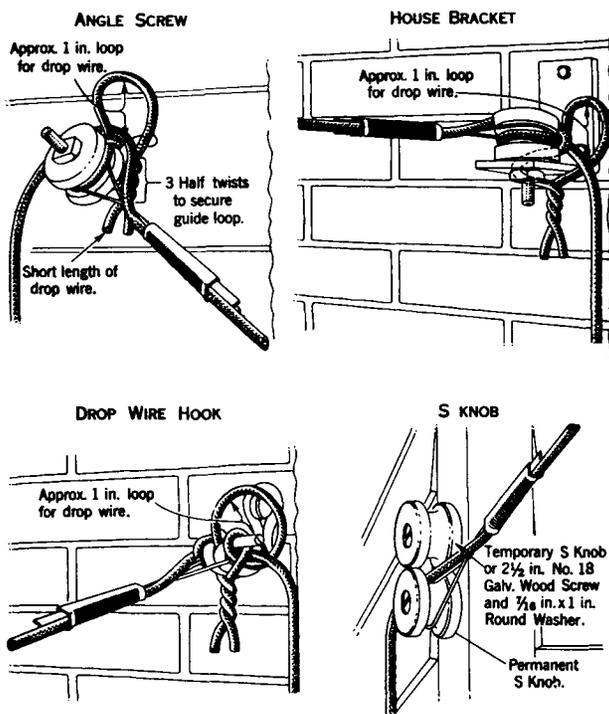

Fig. 1 - Temporary Guide Loop
(5) Man No. 1 and Man No. 2 both go to the opposite or building end of the drop wire span.
(6) Man No. 1 cuts the drop wire in the building run at a point where the end of the wire can be reached from the ground and then frees the wire from all intermediate attachments between the cut end of the wire and the first building attachment.
(7) Man No. 2 removes the C knob or the SC wire clip at the first building attachment and then places a temporary guide loop at the first building attachment, around the drop wire, such as shown in Fig. 1, to prevent the wire from becoming accidentally disengaged from the building attachment as it is being pulled over the power circuits.
(8) Man No. 1 on the ground holds tension in the drop wire while Man No. 2 removes the original drop wire clamp from the first building attachment. Man No. 1 continues to hold tension in the wire span to prevent it from coming in contact with the trolley contact or power wires or power cables.
(9) Man No. 2 returns to the other end of the wire span, unties the handline and keeps the drop wire taut while feeding it to Man No. 1 who pulls it over the power circuits and coils the drop wire as it is pulled out of the span.
(10) When the end of the drop wire has been pulled at least 10 feet beyond the trolley contact or power wires or power cables, and no traffic is approaching, Man No. 2 carefully releases the handline, allowing it to fall on the power circuits and then immediately goes into the street or highway to control traffic, assisted by the police if necessary.
(11) Man No. 1 pulls the remainder of the drop wire and the handline to the building end of the span and away from the street or highway.